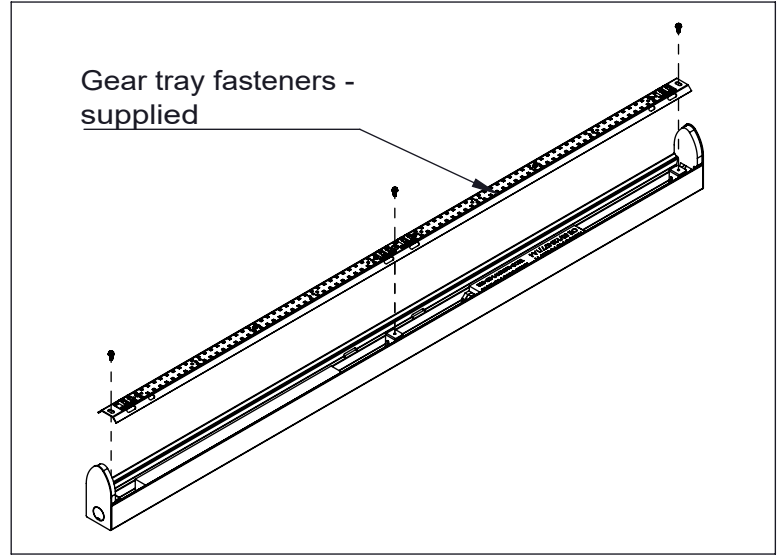

Figure 2
2. Remove LED gear tray (Fig. 2).